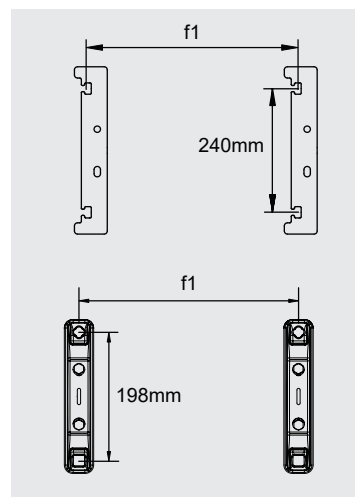

Figure 4
1. Refer to Figure 4 of the installation diagram and use a percussion drill to drill two holes in the wall to fit the accessory expansion hook as shown in Figure 5.